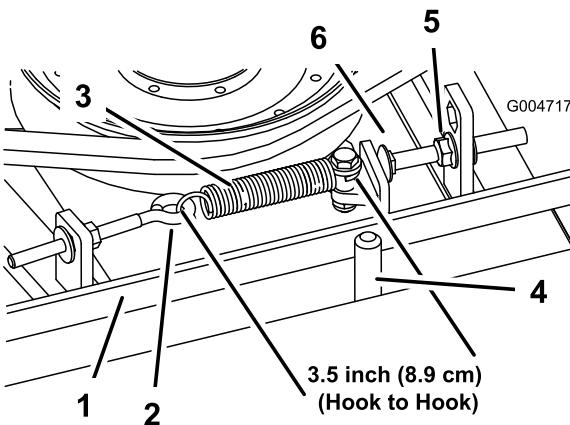

Figure 65
When properly tensioned, the extension spring (hook to hook) measurement should be approximately 3.50 ±.25 inch (inside). Once the correct spring tension is attained, adjust the stop bolt (carriage bolt) until there is approximately .125 +.060/-0.000 inch clearance between the head of the bolt and the idler arm (Figure 65).
Note: Make sure the belt is positioned on the spring side of the belt guide (Figure 65).
2. Loosen the eye bolt allowing the removal of the extension spring (Figure 65).
3. Loosen the flange nut securing the stop bolt to the mounting tab. Back off the nut enough to allow the idler arm to pass by the stop bolt (Figure 65). Move the idler pulley away from the belt to release belt tension.
8. Reconnect the extension spring (Figure 65) to the eye bolt and tension the belt as follows: